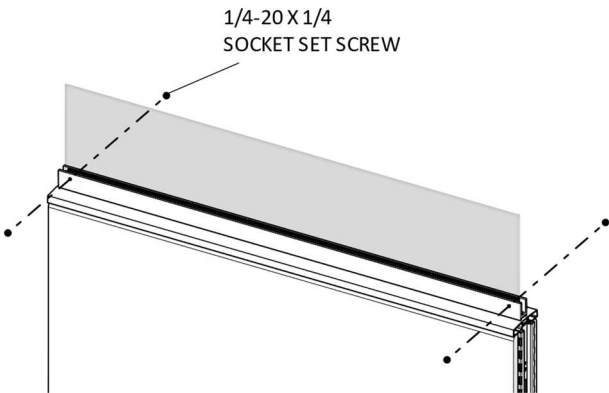

FIGURE 4
5. Align and secure the glass/acrylic by inserting 1/4-20 X 1/4" Socket Set Screw through each of the holes on the side of the Frameless Glass/Acrylic Extrusion using allen key driver, (Figure 4).